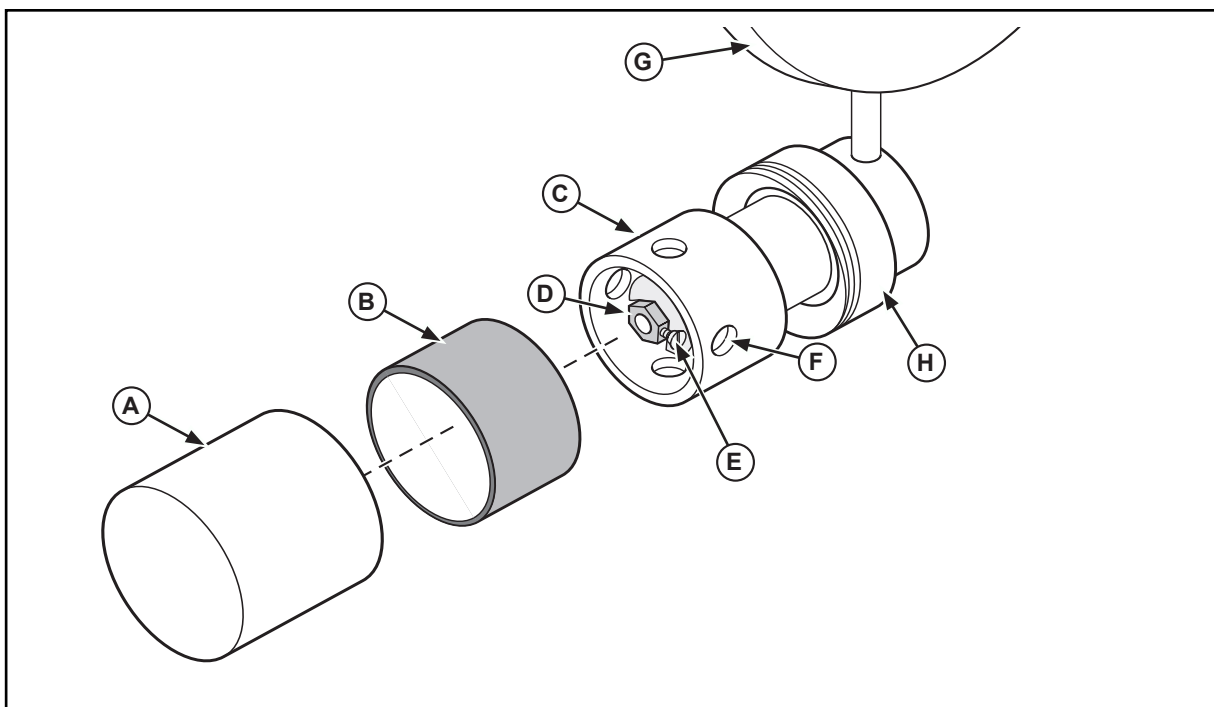

Figure 1. Drum Hinge Components.
1. Remove the outside covers (A) from the inside covers (H) on both sides by turning counterclockwise. See Figure 1. If using a wrench, cover with a soft cloth to help prevent scratching the covers.
2. Carefully remove the rubber sleeves (B) from the spring cover (C) on both sides.
3. Rotate the chafer cover (G) to align the hole (F) with the screw (E). The screws (E) must be loose enough for nut (D) to rotate.
4. Tighten or loosen nuts (D) evenly on both sides until desired tension and cover operation is reached.
5. Rotate the chafer cover (G) to align the hole (F) with screw (E).
6. Tighten the screw (E) on both sides.
7. Lower the chafer cover (G).
8. Carefully slide the rubber sleeves (B) over the spring covers (C).
9. Install the outside covers (A) to the inside covers (H) on both sides. If using a wrench, cover with soft cloth to help prevent scratching the covers.